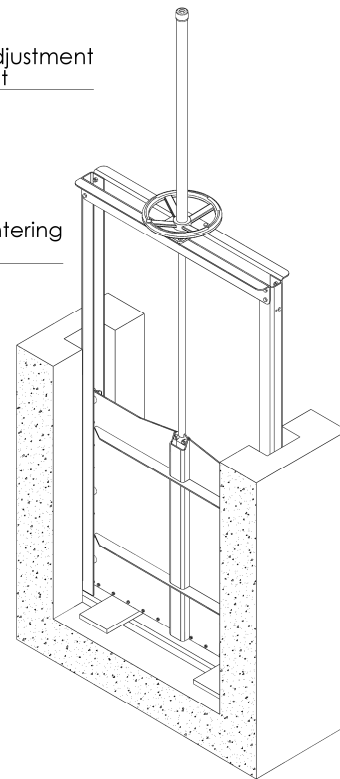

Figure 5
- Proceed with "Step 2". When the gate is positioned in the recess, the supports will maintain the frame invert flush with the invert of the channel (See Figure 5).